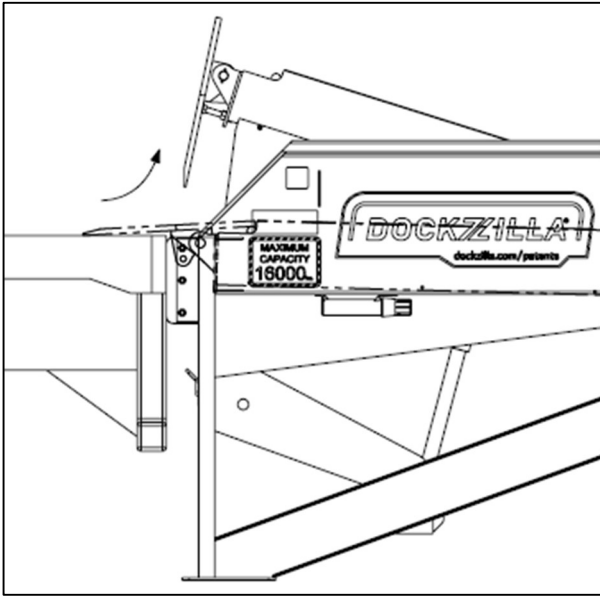

Figure 10: Raising Leveler from Trailer
1. Press the RAISE button until lip is fully pendent (Figure 10).